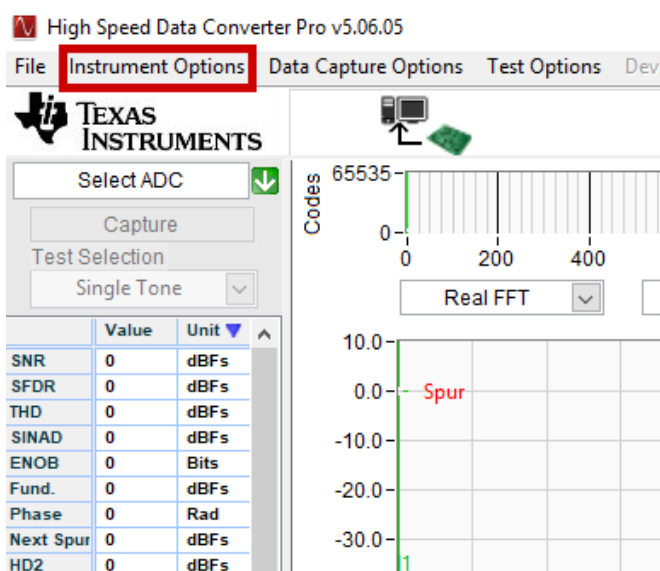

Figure 4-1. Connecting to TSW14J56 From HSDC PRO
1. Start the HSDC PRO software by going to *Start > Texas Instruments > High Speed Data Converter Pro*. Figure 4-1 illustrates that the HSDC PRO application started properly. Take note of the *Serial Numbers* of the TSW14J56EVM after the device is connected.